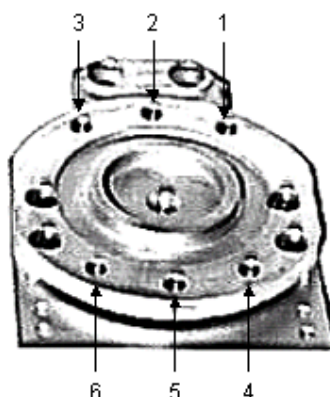

Figure 4-12: Fastening the Mini-elevation Plate
11. Fasten two elevation bolts, spacers, washers and lock-washers in the center holes (#2 and #5) of the mini-elevation plate as shown in Figure 4-12
7. Fasten two elevation bolts, spacers, washers and lock-washers in the center holes (#2 and #5) of the mini-elevation plate as shown in Figure 4-12.